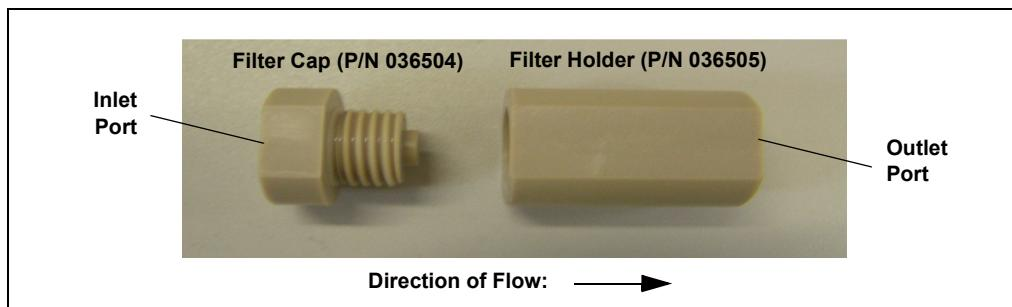

Figure 2. High-Pressure Inline Filter
1. Unscrew the filter cap from the filter holder (see Figure 2).
9. Connect the autosampler outlet line to the inlet port of the inline filter (see Figure 2).
10. Connect the sample in port of the injection valve to the outlet port of the inline filter (see Figure 2).